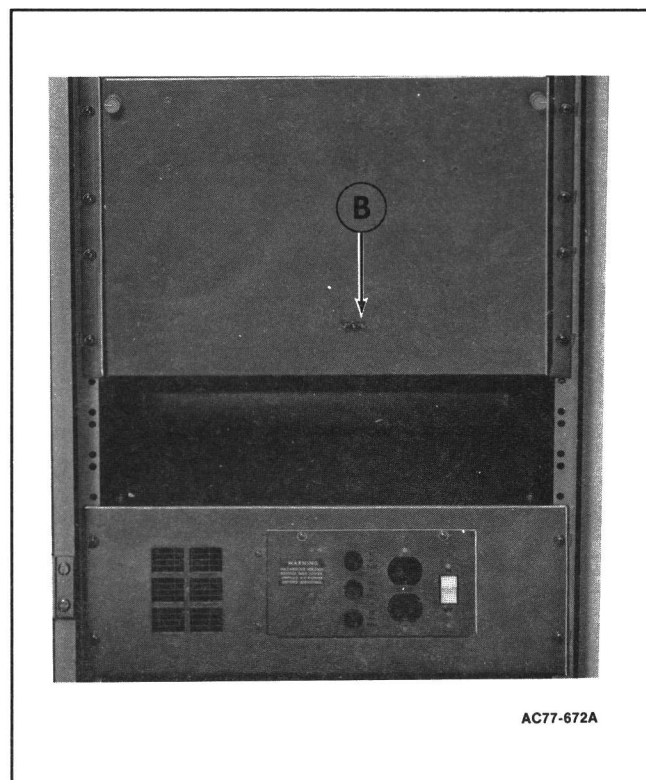

Figure 3 - Access to Wing Nut Holding Receiver Frame
1. Remove the wing nut **B** on the Radio Housing Front Door (refer to Figure 3).